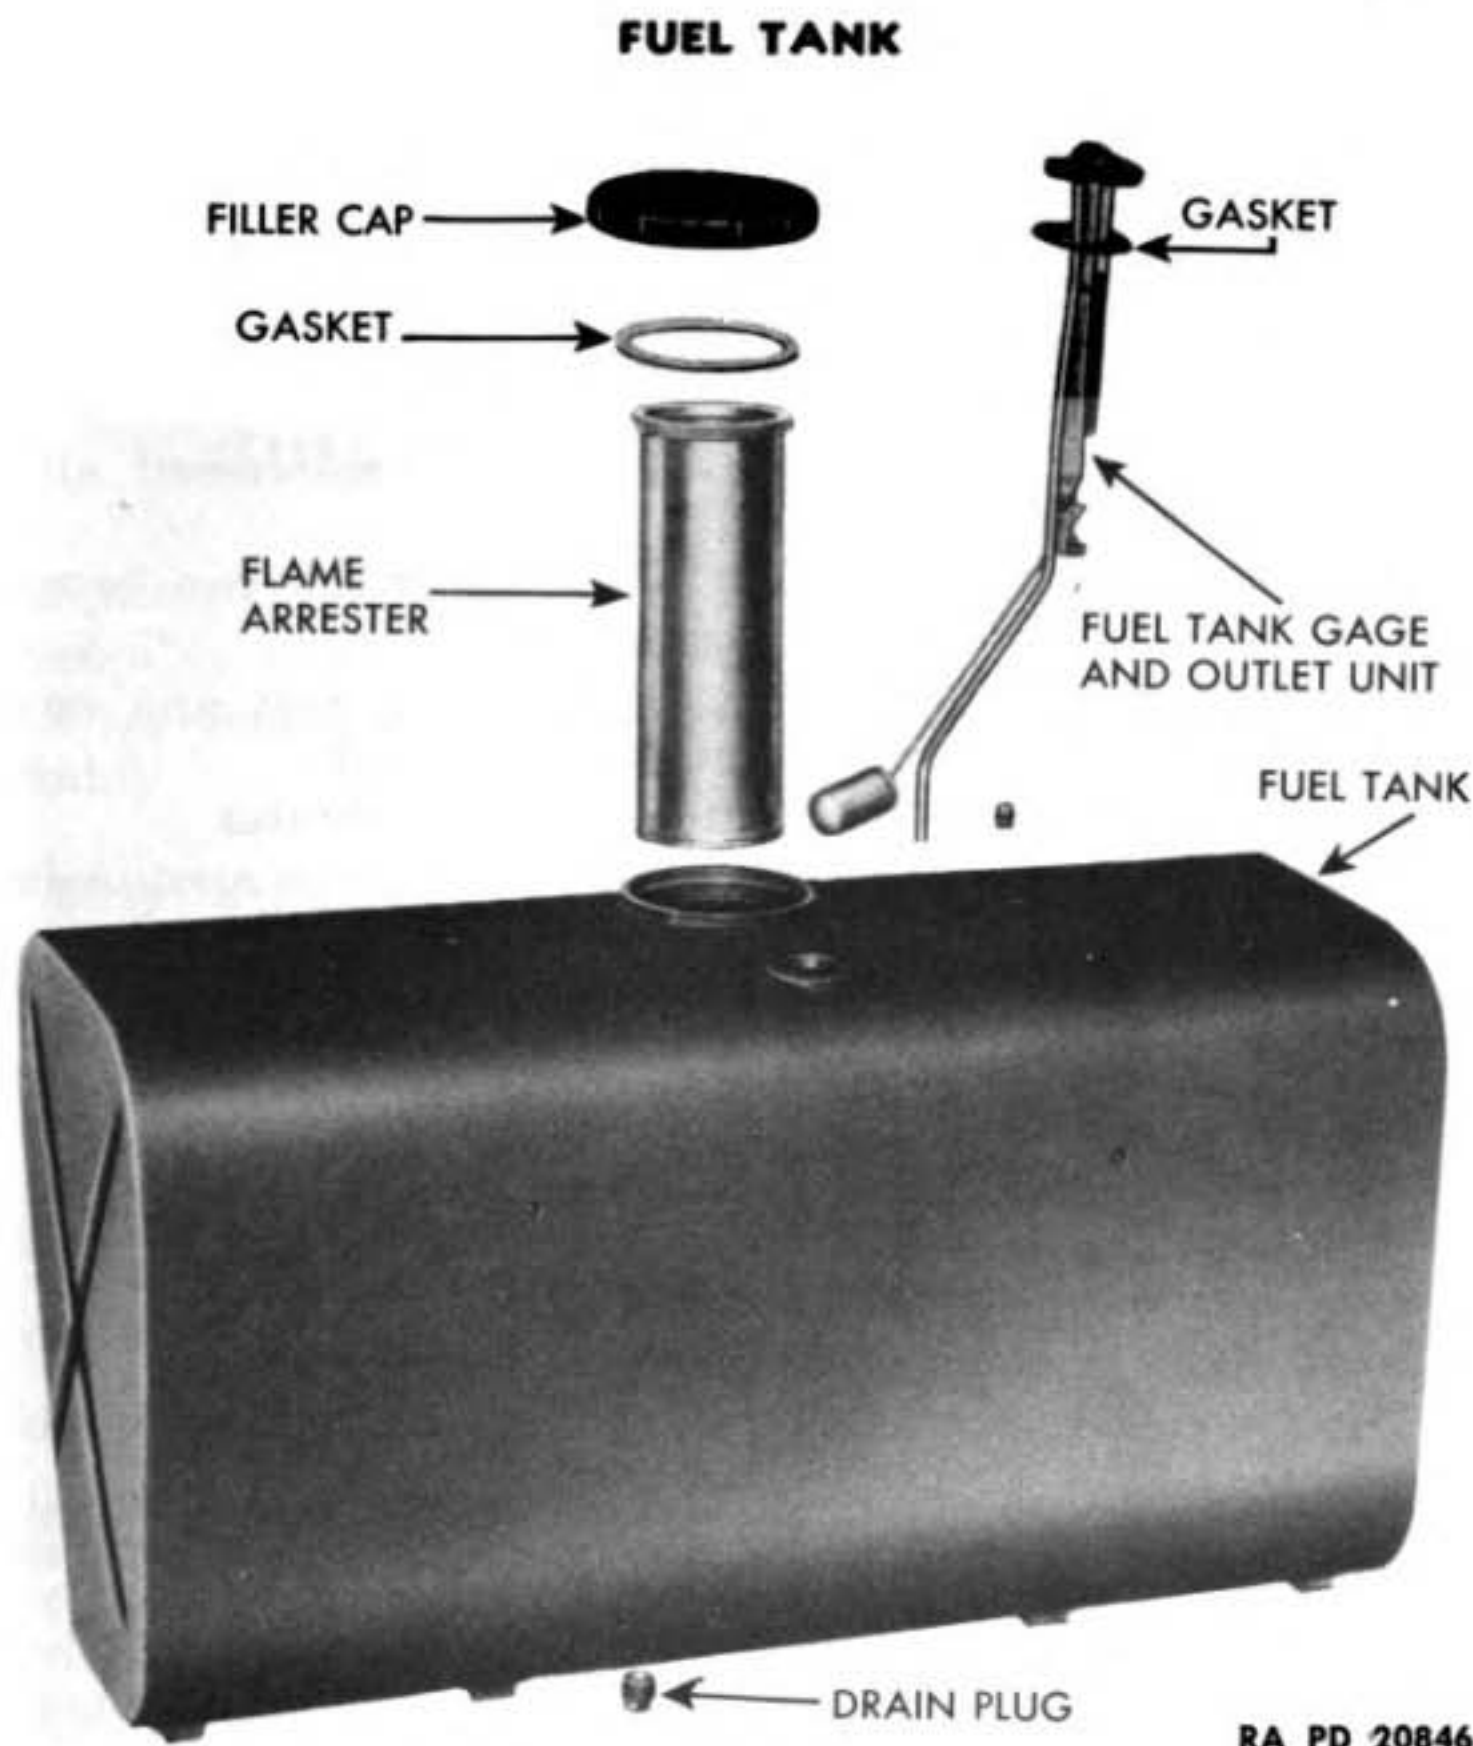

Figure 116 — Fuel Tank and Gage with Outlet Unit
60. DESCRIPTION (fig. 116).
71. DESCRIPTION (fig. 116).